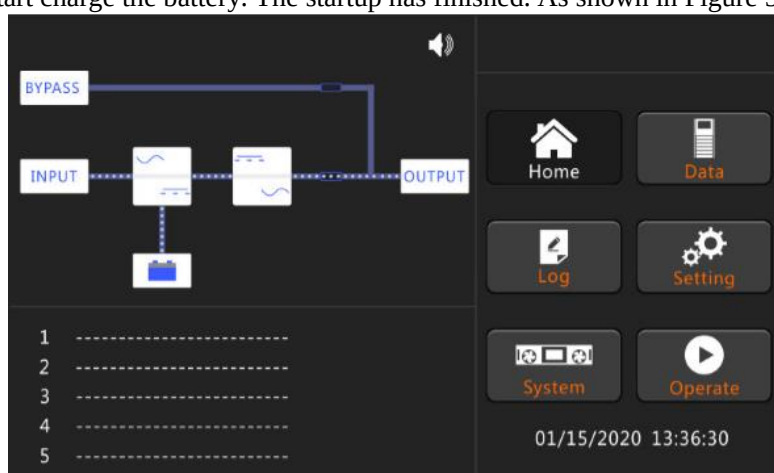

Figure.5.5 Charger start working
4. Users can close the external or internal battery breaker, the load indicator bar flashes. Then start charge the battery. The startup has finished. As shown in Figure 5-5.